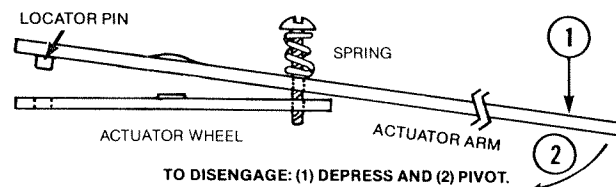

Fig. 8 — Disengaging actuator arm from draft damper
4. The actuator arm can be disengaged from the wheel to manually close the draft damper when the damper operator is energized, or to prevent operation of the draft damper as the damper operator responds to the controller. In this position the actuator arm can be pivoted so as to be clear of the draft damper during the operator's rotation. See Fig. 8.